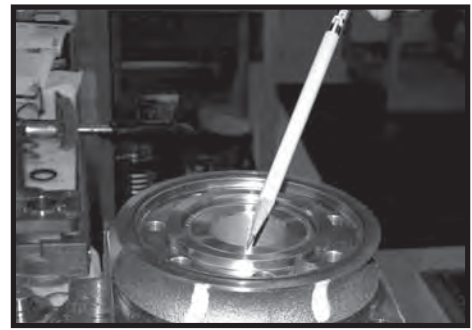

Figure 39
**CAUTION:** The outer bearing (19) is not lubricated by the system's hydraulic fluid. Be sure it is thoroughly packed with the recommended grease, Parker Gear grease specification #045236, E/M Lubricant #K-70M.
**NOTE:** The coupling shaft (12) will be approximately .10 inch (2.54 mm) below the housing wear plate surface to allow the assembly of thrust bearing (11). The coupling shaft must rotate smoothly on the thrust bearing package. SEE FIGURE 39.